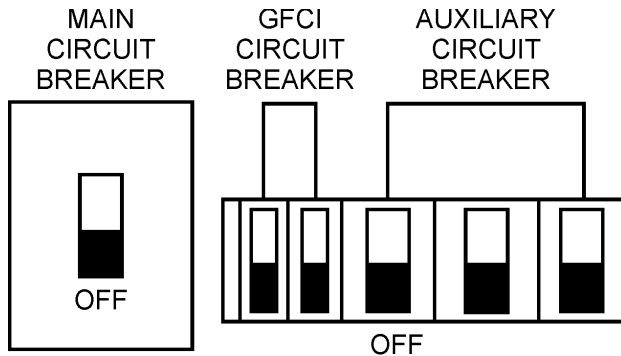
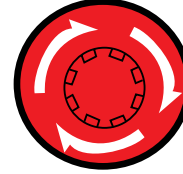

Figure 42. Main, Aux. and GFCI Circuit Breakers (OFF)
Figure 44. Emergency Stop Button
1. Place both the **MAIN, GFCI and LOAD** circuit breakers as shown in Figure 42 to the **OFF** position.
1. If equipped (option), push the **Emergency Stop Pushbutton Switch** (Figure 44).
2. If generator is not equipped with an emergency stop pushbutton switch (Figure 44), place the main circuit breaker (Figure 42) in the **OFF** position